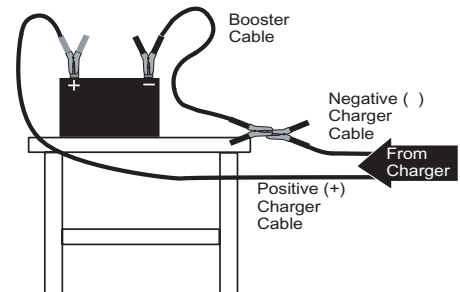

Figure 6. Connecting Outside The Vehicle
2. Check the polarity of the battery terminals (see Figure 6). The POSITIVE terminal should be marked POSITIVE, POS, + or P. The NEGATIVE terminal should be marked NEGATIVE, NEG, - or N.